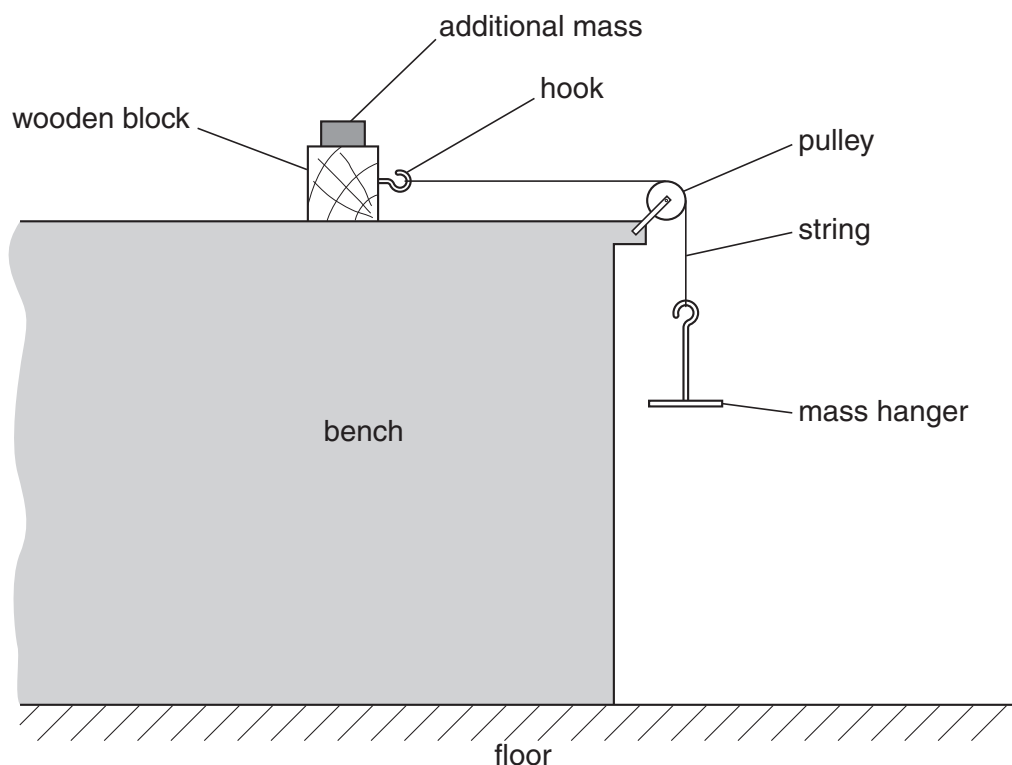

Fig. 2.1
1. The small hook should be screwed into one end of the wooden block. One end of the thin string should be tied to the hook and the other end should be tied to the mass hanger. The apparatus should then be assembled as shown in Fig. 2.1.